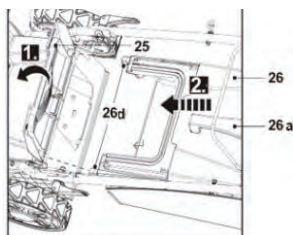

Fig. 5
3. Open the rear deflector guard (25) and hold it in position (Fig. 5, step 1).
5. Align the hooks (26d) with the slots and hang the grass catcher onto it (Fig. 5, step 2)
6. Carefully release the rear deflector guard (25) afterwards.